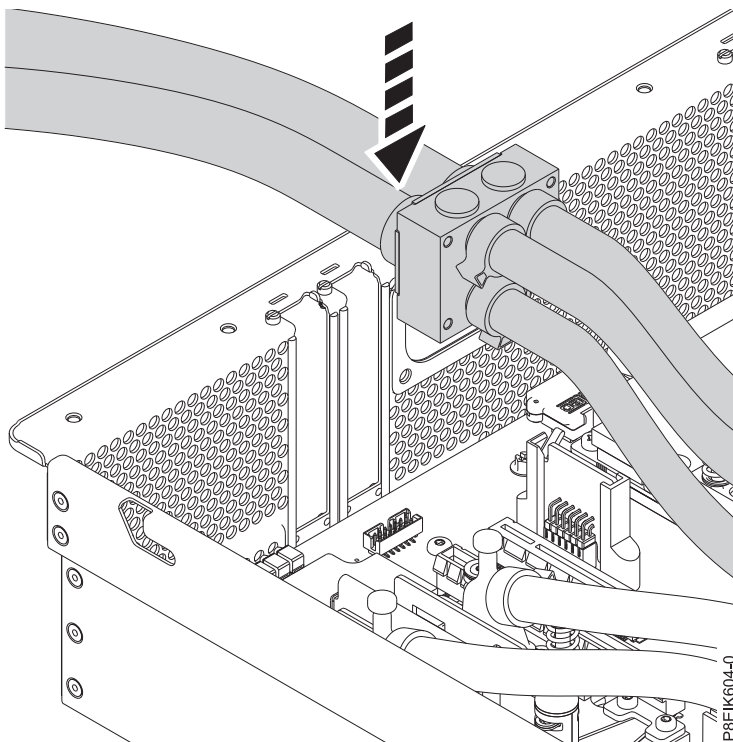

Figure 5. Resting the hoses on the rear wall
5. Rest the removed hoses on the top of the rear wall as shown in Figure 5.